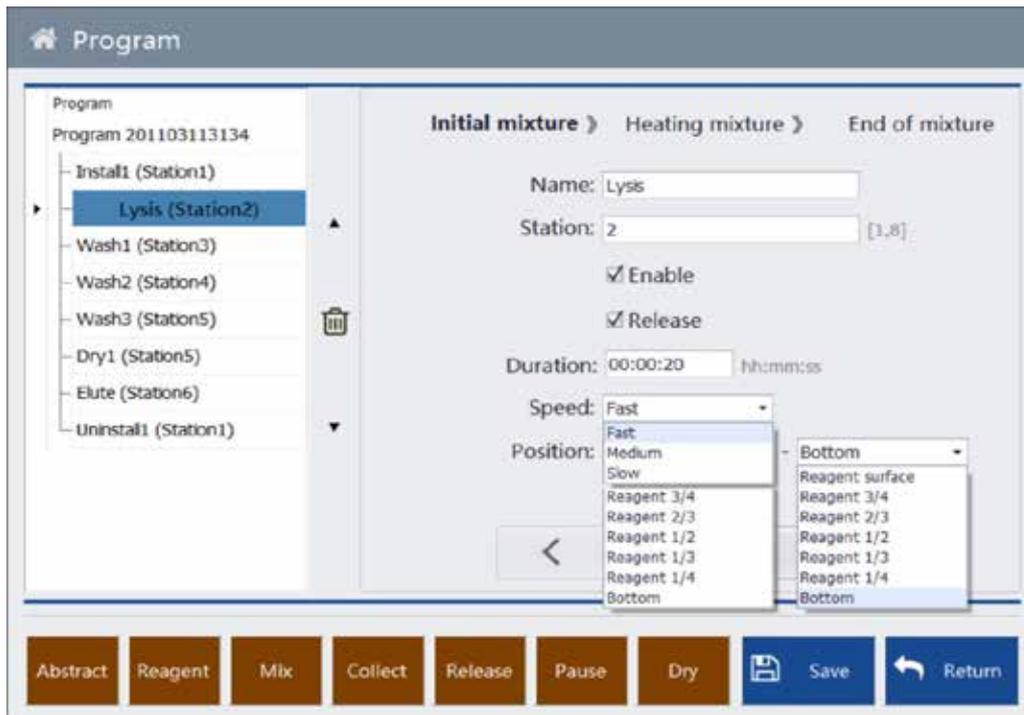

Figure 4-8-1 Initial Mixing
**Initial Mixing:** shows the position, time and speed of the release of magnetic beads, as shown in Figure 4-8-1